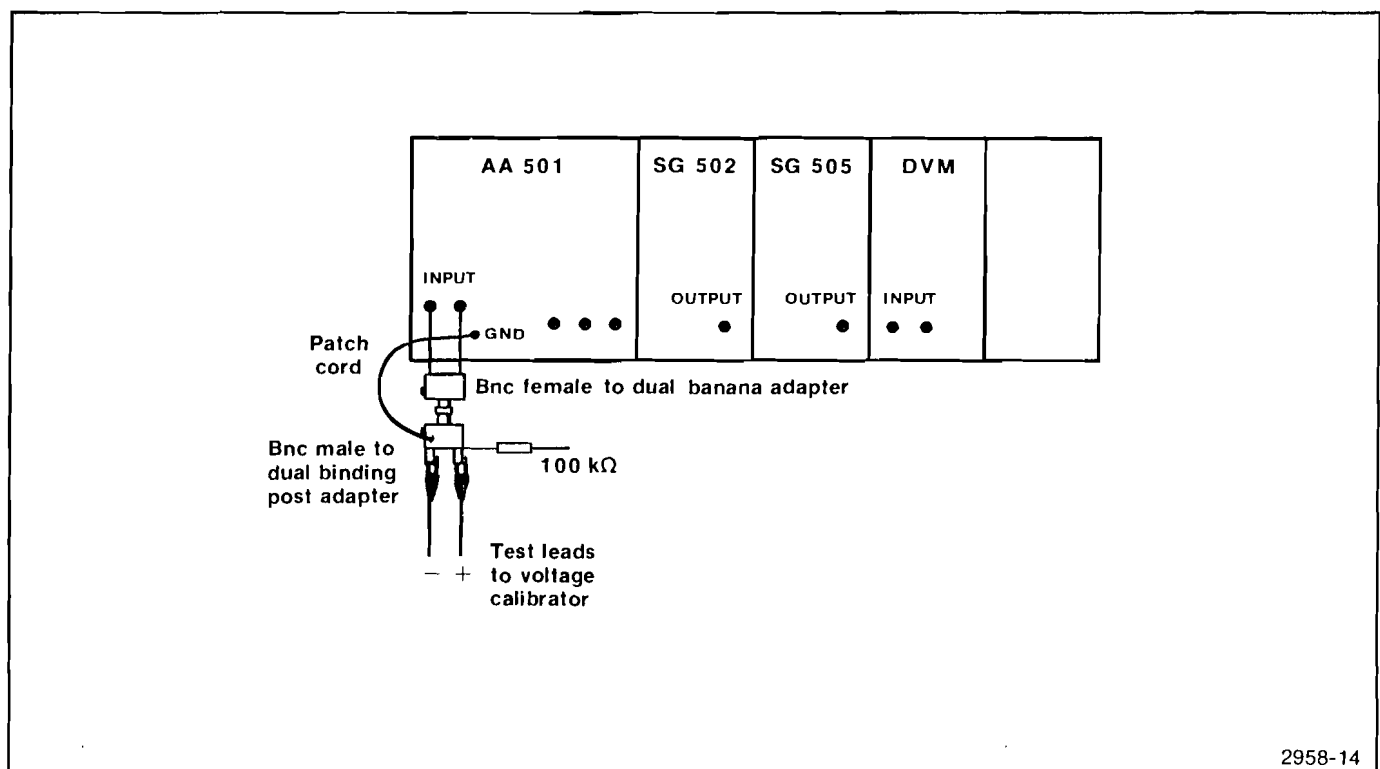

Fig. 4-1. Check step 1. Input impedance.
a. Connect the ac voltage calibrator to the input terminals of the AA 501 as shown in Fig. 4-1. Connect the black clip lead to the low terminal and the red clip lead to the high terminal of the voltage calibrator.
with the ac calibrator. These connections are similar to the test setups shown in Fig. 4-1 except that the + lead from the calibrator is connected to the free end of the 100 K Ω resistor. As this comprises a 102 to 1 voltage divider (including AA 501 input impedance effects) setting the ac calibrator for 10.20 mV will cause the required 100 μ V at the AA 501 input terminals.